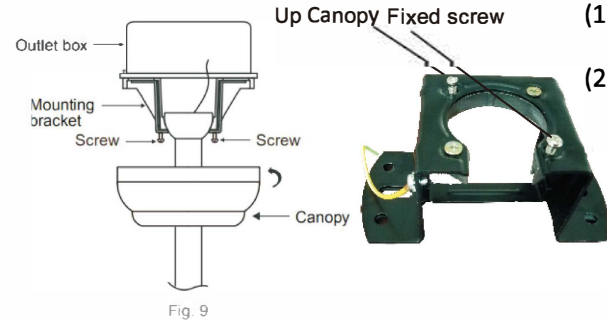

Fig. 9
- (2) Rotate the motor assemble until the "Check Tab" on the mounting bracket has dropped into the "Registration Slot" on the hanging ball and seat firmly (Fig.7 Fig.8 Fig. 9)